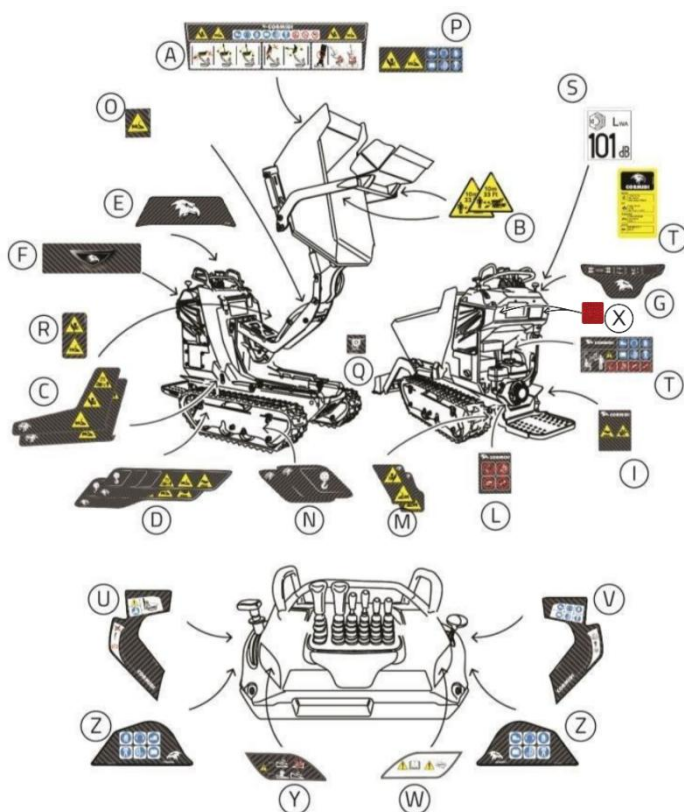

fig. 2.1 – Location of safety labels
Special stickers featuring symbols and explanatory text were created to give greater emphasis to possible hazards, in accordance with UNI Standard 9244-95 (E) (see Fig. 2.1).